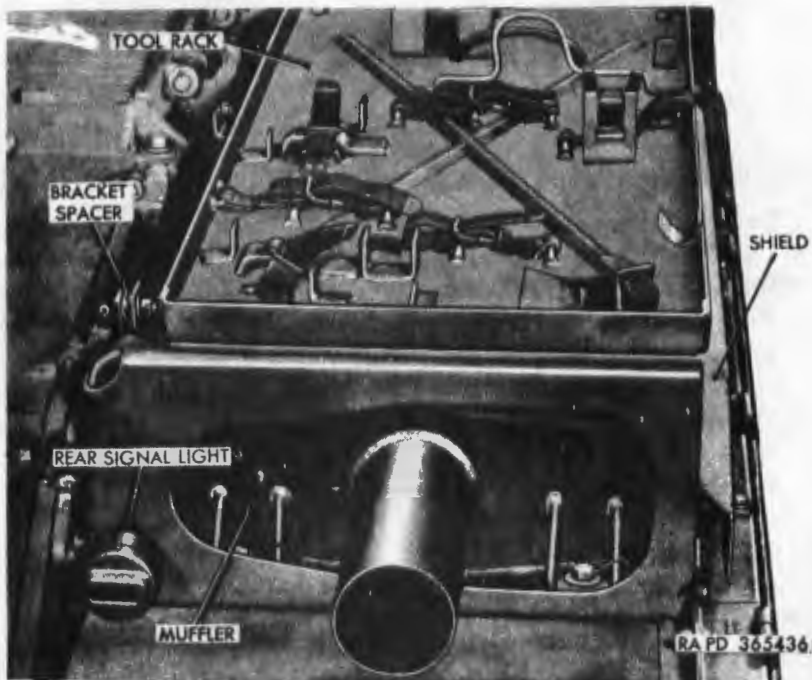

Figure 133. Right exhaust muffler—installed.
b. Removal (fig. 133).
- (1) Remove four hex nuts, lockwasher, and cap screws securing the tool rack mounted on the right muffler or the track shoe rack mounted on the left muffler.
- (2) Remove four hex-head bolts, lockwashers, flat washers, and hex nuts that secure the muffler shield on the outer edge and remove two self-locking hex nuts, flat washers, and spacers on inner edge, and remove muffler shield.
- (3) Cut locking wire and remove four hex-head bolts and flat washers securing muffler to mounting brackets and lift muffler off by sliding it outward and upward to disengage muffler inlet from muffler connector.
c. Installation (fig. 133).
- (1) Slide muffler into position engaging the muffler inlet with the muffler connector. Secure muffler to fender with four $\frac{1}{2}$ x 1 hex-head bolts, $\frac{9}{16}$ -inch flat washers, and locking wire.
- (2) Position muffler shield over muffler and secure with two $\frac{3}{8}$ x $\frac{3}{4}$ hex-head bolts, $\frac{5}{8}$ -inch lockwashers, $1\frac{1}{32}$ -inch flat washers, and $\frac{5}{8}$ -inch hex nuts on the outer edge and two $\frac{5}{8}$ -inch self-locking hex nuts, $1\frac{1}{32}$ -inch flat washers, and muffler shield bracket spacers on the inner edge.